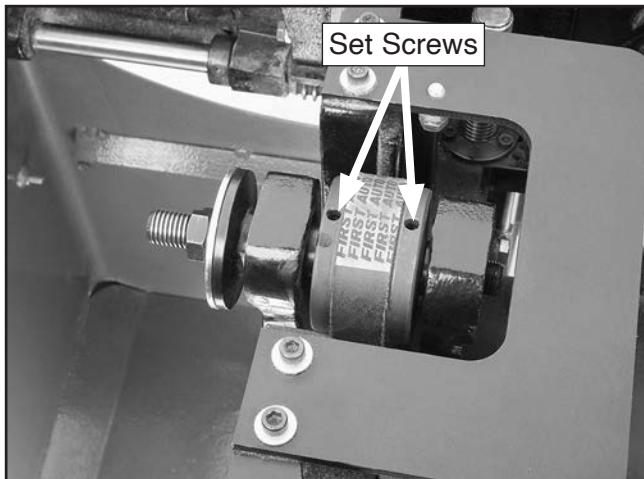

Figure 134. Location of arbor set screws.
12. Loosen set screws shown in **Figure 134**.
29. Re-install bearing retainer with (3) Phillips head screws removed earlier.
30. Tighten pulley set screws shown in **Figure 134** on **Page 78**.